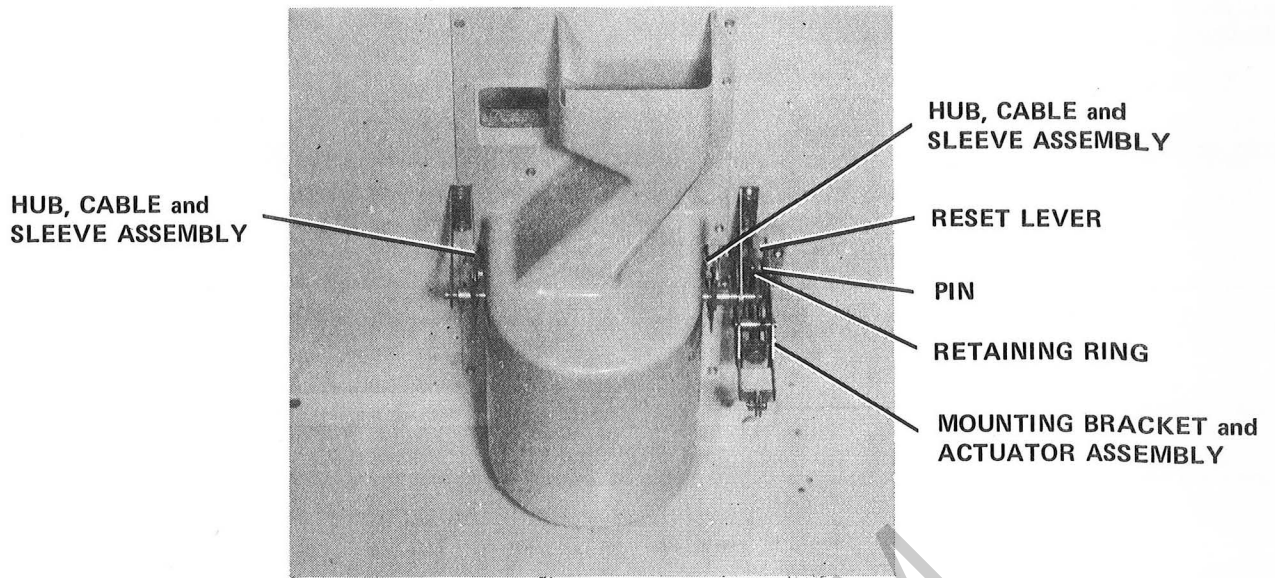

Figure 6.
25. Position Mounting Bracket and Actuator Assembly, Part No. 139052, on Phonograph Cabinet as shown in Figure 6. Secure with four Screws, Part No. 76267-21.
26. Install Pin, Part No. 139113, in links of Shaft and Adjustment Lever Assembly and Mounting Bracket and Actuator Assembly and secure with Retaining Ring, Part no. 73724-18, as shown in Figure 6.
35. Adjust Cable and Sleeve Assemblies as necessary to provide sufficient tension between Cash Box Door Frame and Cable and Sleeve Assemblies, Refer to Figure 6.
36. To test Alarm, trip left hand Hub, Cable and Sleeve Assembly to activate Alarm, then immediately reset by pushing Reset Lever away from Trumpet. Refer to Figure 6.